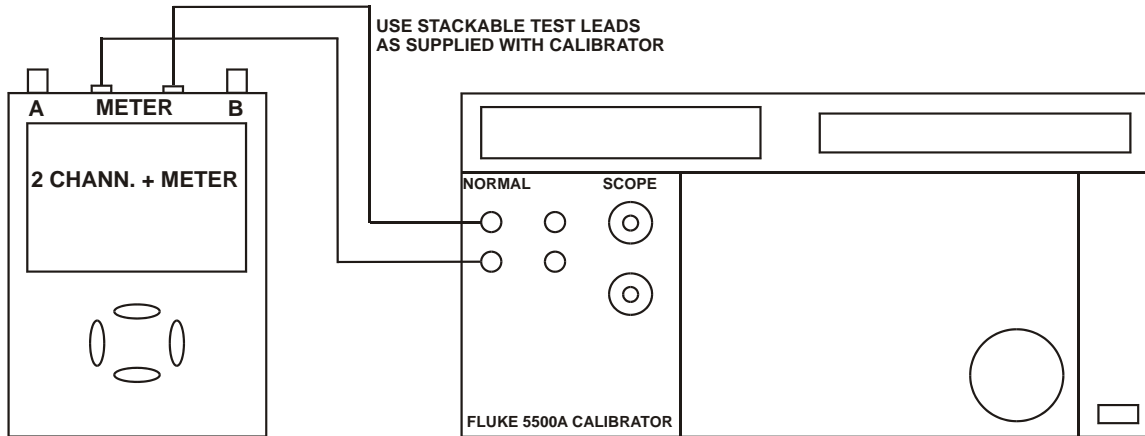

Figure 5-9. 5500A NORMAL Output to Test Tool Banana Input
2. Connect the test tool to the 5500A as shown in Figure 5-9.